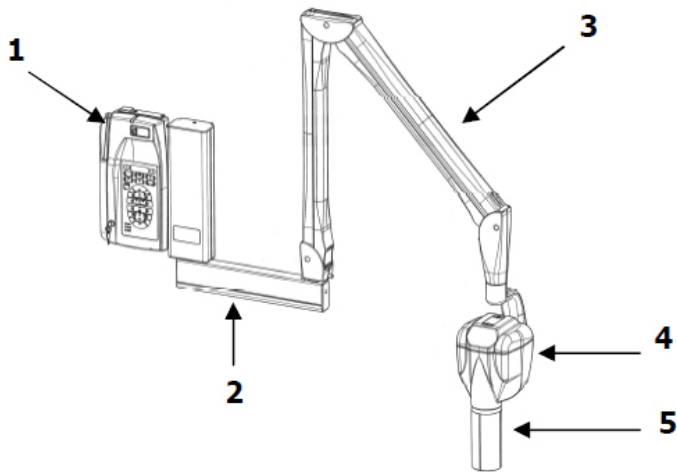

Fig. 1
**Owandy-RX AC** radiographic system (Fig. 1) consists of: